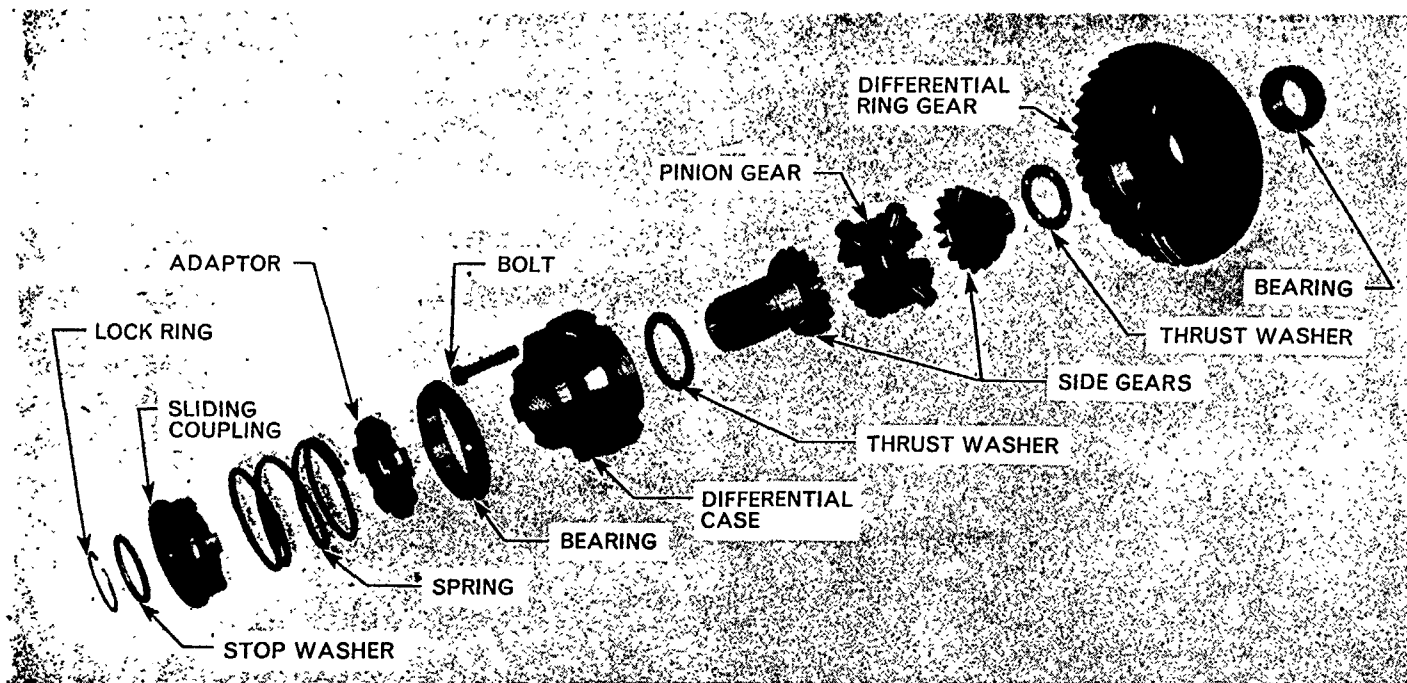

Figure 17
2. If a differential lock is fitted remove the lock ring retaining the differential lock coupling to the right-hand side gear. Remove the stop washer, coupling, coupling spring and gear case adaptor, Figure 17.